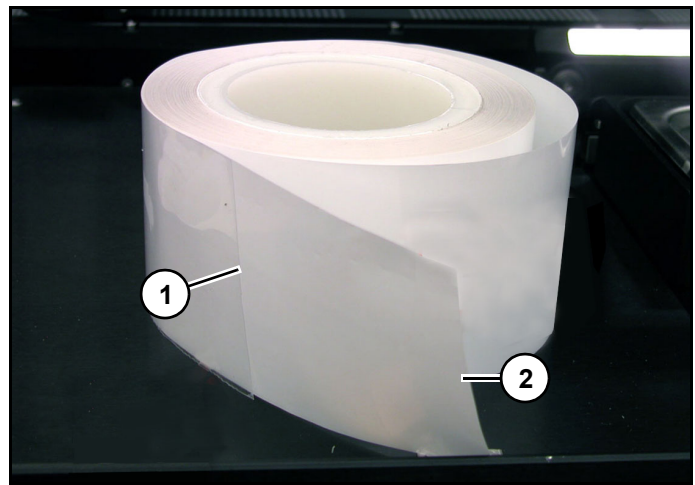

Figure 3
1. Using scissors, cut a few inches of seal tape (1) shorter than backing (2). (Figure 3)